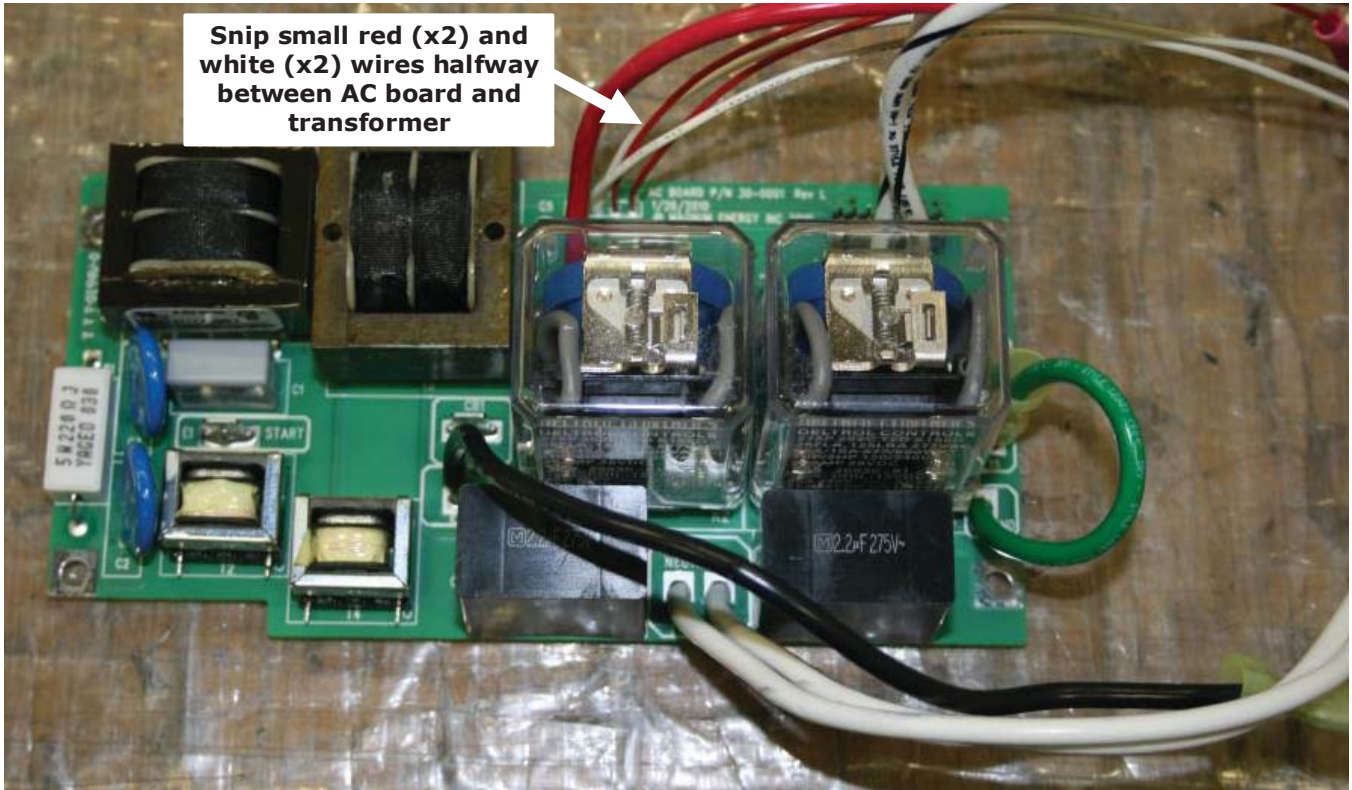

Figure 3, ME/MS Series AC Board (TACB-ME/MS)
- Use the wire cutters to snip the four small wires (x2 red, x2 white*) connecting the AC board to the inverter's transformer. See Figure 3.
Refer to Figures 3 thru 13 for examples of model-specific AC boards. Please note that the particular board you are working with may vary somewhat from what is pictured.